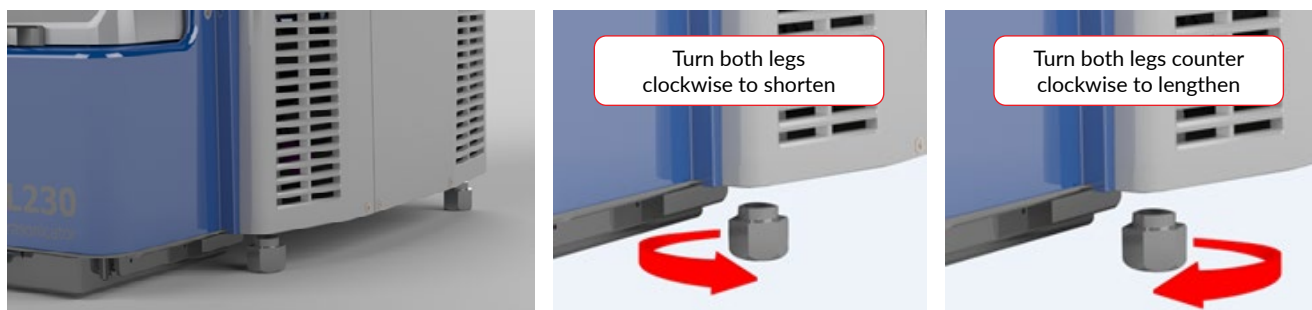

Figure 2.15 ML230 Leg Height Adjustment
- Lengthen or shorten both legs on the right side of the instrument an equal amount, as in **Figure 2.15**, until the bubble is centered in the leveling fixture sight glass.